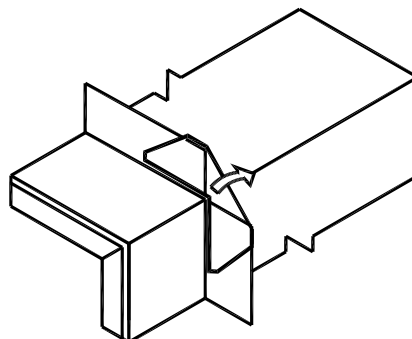

Fig 5
Step 4. Apply Nail Fin Gaskets (Fig 5)